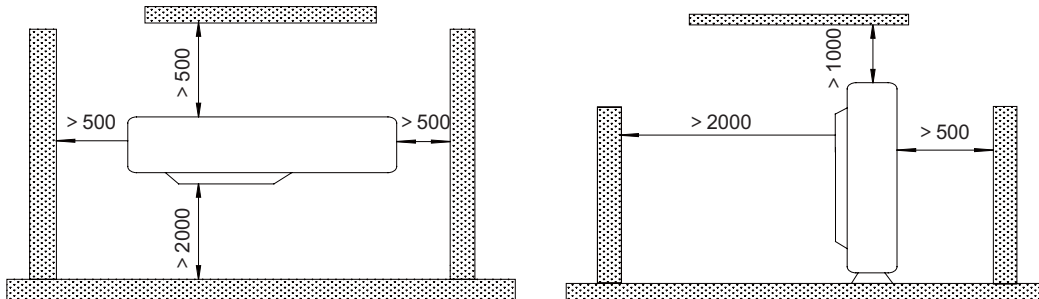

Figure 3-2-1
- (1). Install the outdoor unit in a place where it will be free from being dirty or getting wet by rain as much as possible.
- (2). Install the outdoor unit where it is convenient to connect with the indoor unit.
- (3). Install the outdoor unit where the condensate water can be drained out freely during heating operation.
- (4). Do not place animals and plants in the path of the warm air.
- (5). Take the air conditioner weight into account and select a place where noise and vibration are small.
- (6). Install the outdoor unit where is capable of withstanding the weight of the unit and generates as less noise and vibration as possible.
- (7). Provide the space shown in Figure 3-2-1, so that the air flow is not blocked. Also for efficient operation, leave three of four directions of periphery